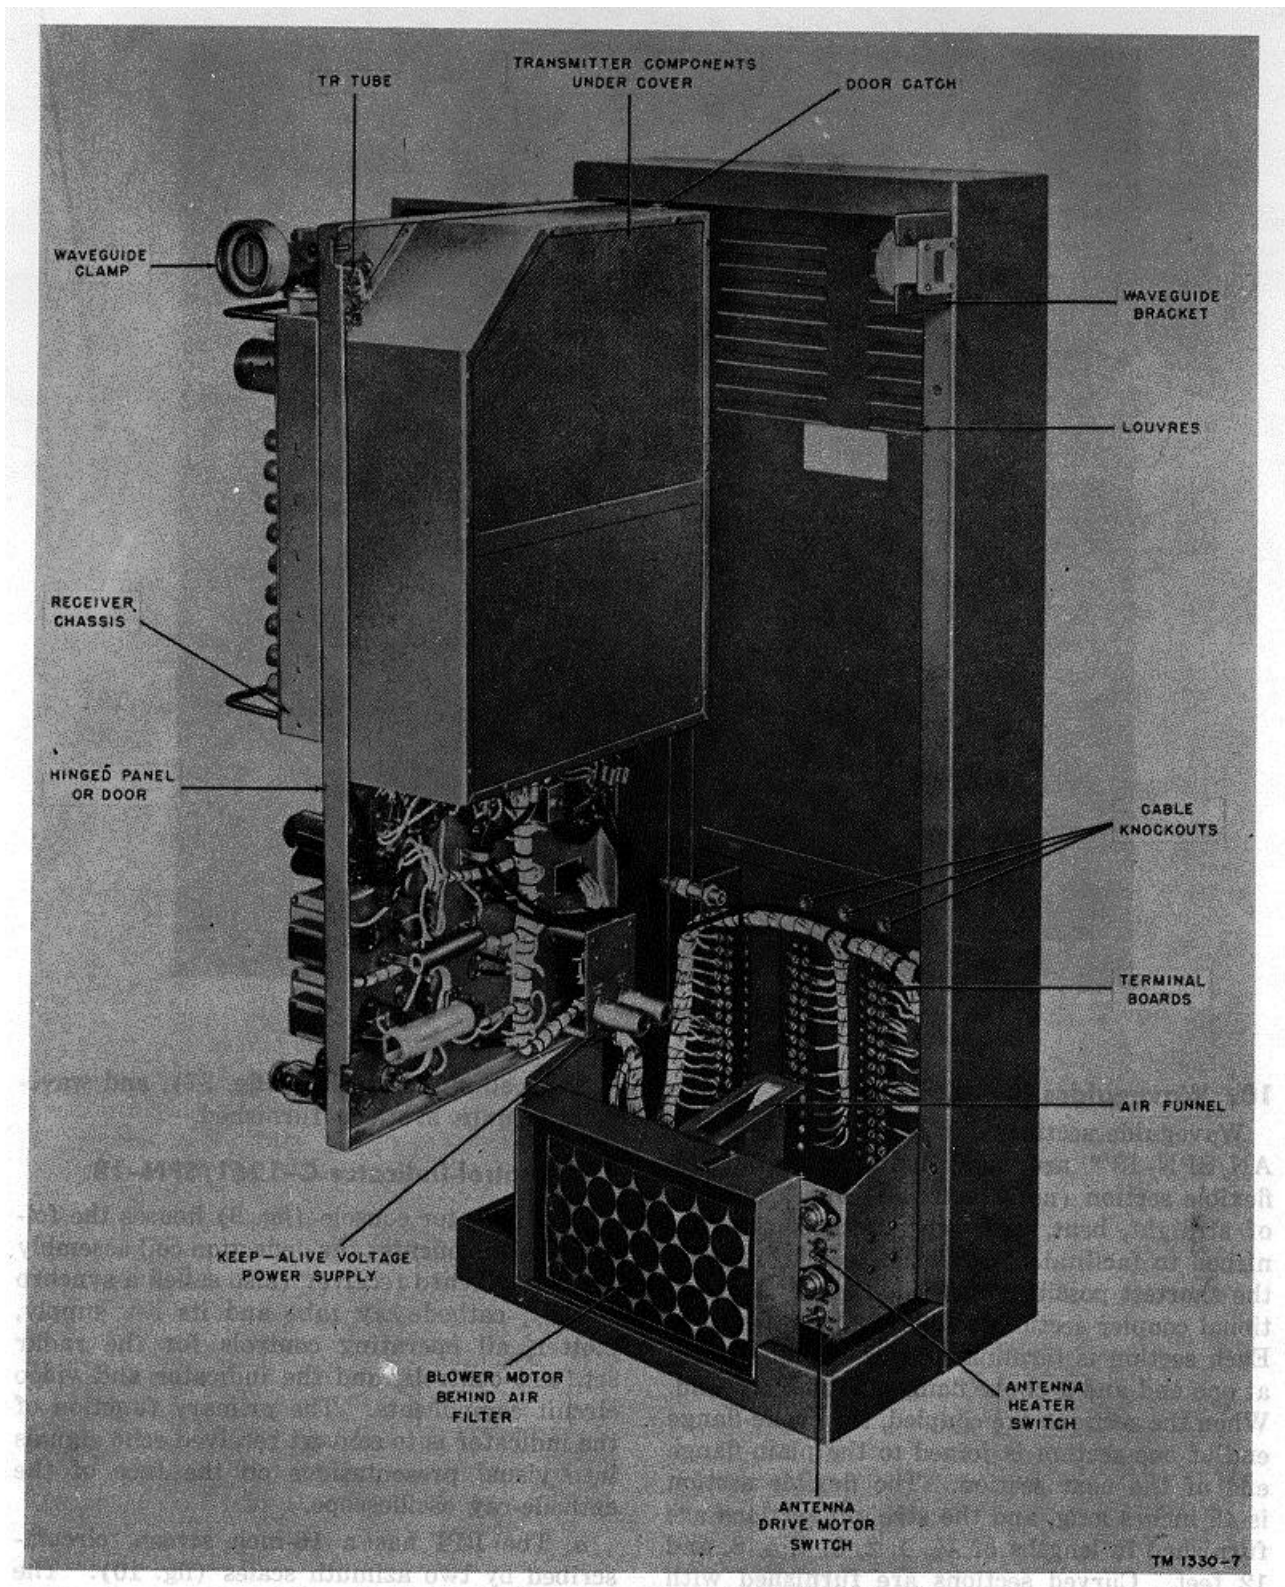

Figure 7. Radar Receiver-Transmitter RT-290/SPN-18, door open
- (1) The hinged panel, or door, upon which the transmitter-receiver components are mounted is opened by loosening two captive bolts and the waveguide clamp. A spanner wrench is provided for loosening this clamp, which couples the duplexer portion of the waveguide to a portion that extends through a bracket on the cabinet frame. When the door is open (fig. 7), the blower
(2) On a subchassis below the door are a-c outlets, convenience panel, air filter, and blower motor. The blower motor provides ventilation for the equipment by drawing air through the filter and distributing it through a vertical duct. Louvers on the sides of the cover and on the rear of the cabinet permit the warm air to escape. The air filter can be replaced, without removing the front cover, by loosening two captive screws and opening the hinged grille on the front. The convenience panel to the right of the filter contains the switches for the antenna heaters and drive motor and fuses for the antenna heater and blower. On the rear cover, above the terminal boards, there are three knockouts for cable entry.
- b. *Transmitter.* The magnetron assembly is mounted on the upper left of the door, under a magnetic shield. Beneath the magnetron assembly and directly under the h-v (high-voltage) transformer is the magnetron filament transformer. To cool the magnetron, a hose attached to the vertical duct directs air from the blower. The transmitter components are inclosed in a shielded compartment (fig. 7) on the rear of the door. Removing the perforated cover to this compartment automatically operates an interlock switch.